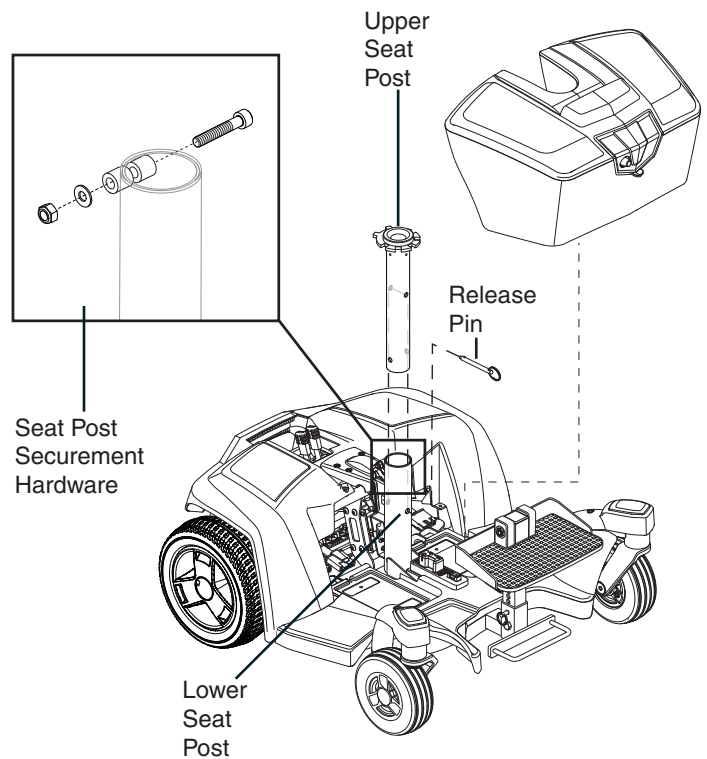

Figure 7. Seat Height Adjustment
7. Loosen the hardware at the rear of the seat post. **See figure 7.**
8. Pull seat post pin for height adjustment. **See figure 7.**